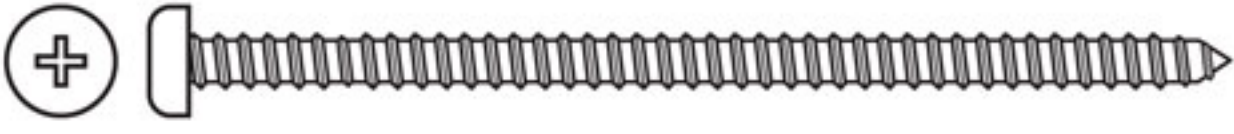

**FIGURE 3: ALTERNATIVE TO SUPPORT FRAME - MULTI-LAYER PLYWOOD INSIDE WALL WITH WALLBOARD PATCH (TOP VIEW)**
3. Fabricate a support frame structure from suitable wood pieces as shown in **Figure 2b**. Support frame width (D) should fit snugly within wall studs. Support frame height (E) should be from 24-32" (61-81cm) high or more, depending on material and stiffness of wall studs. Locate cross member (F) to position in line when rail is located at the height (H). Hold the support rail against the support frame to confirm the cross members are in the correct location. Use a generous quantity of wood screws and glue to hold the support frame structure together as shown. See alternative to support frame as shown in **Figure 3**.